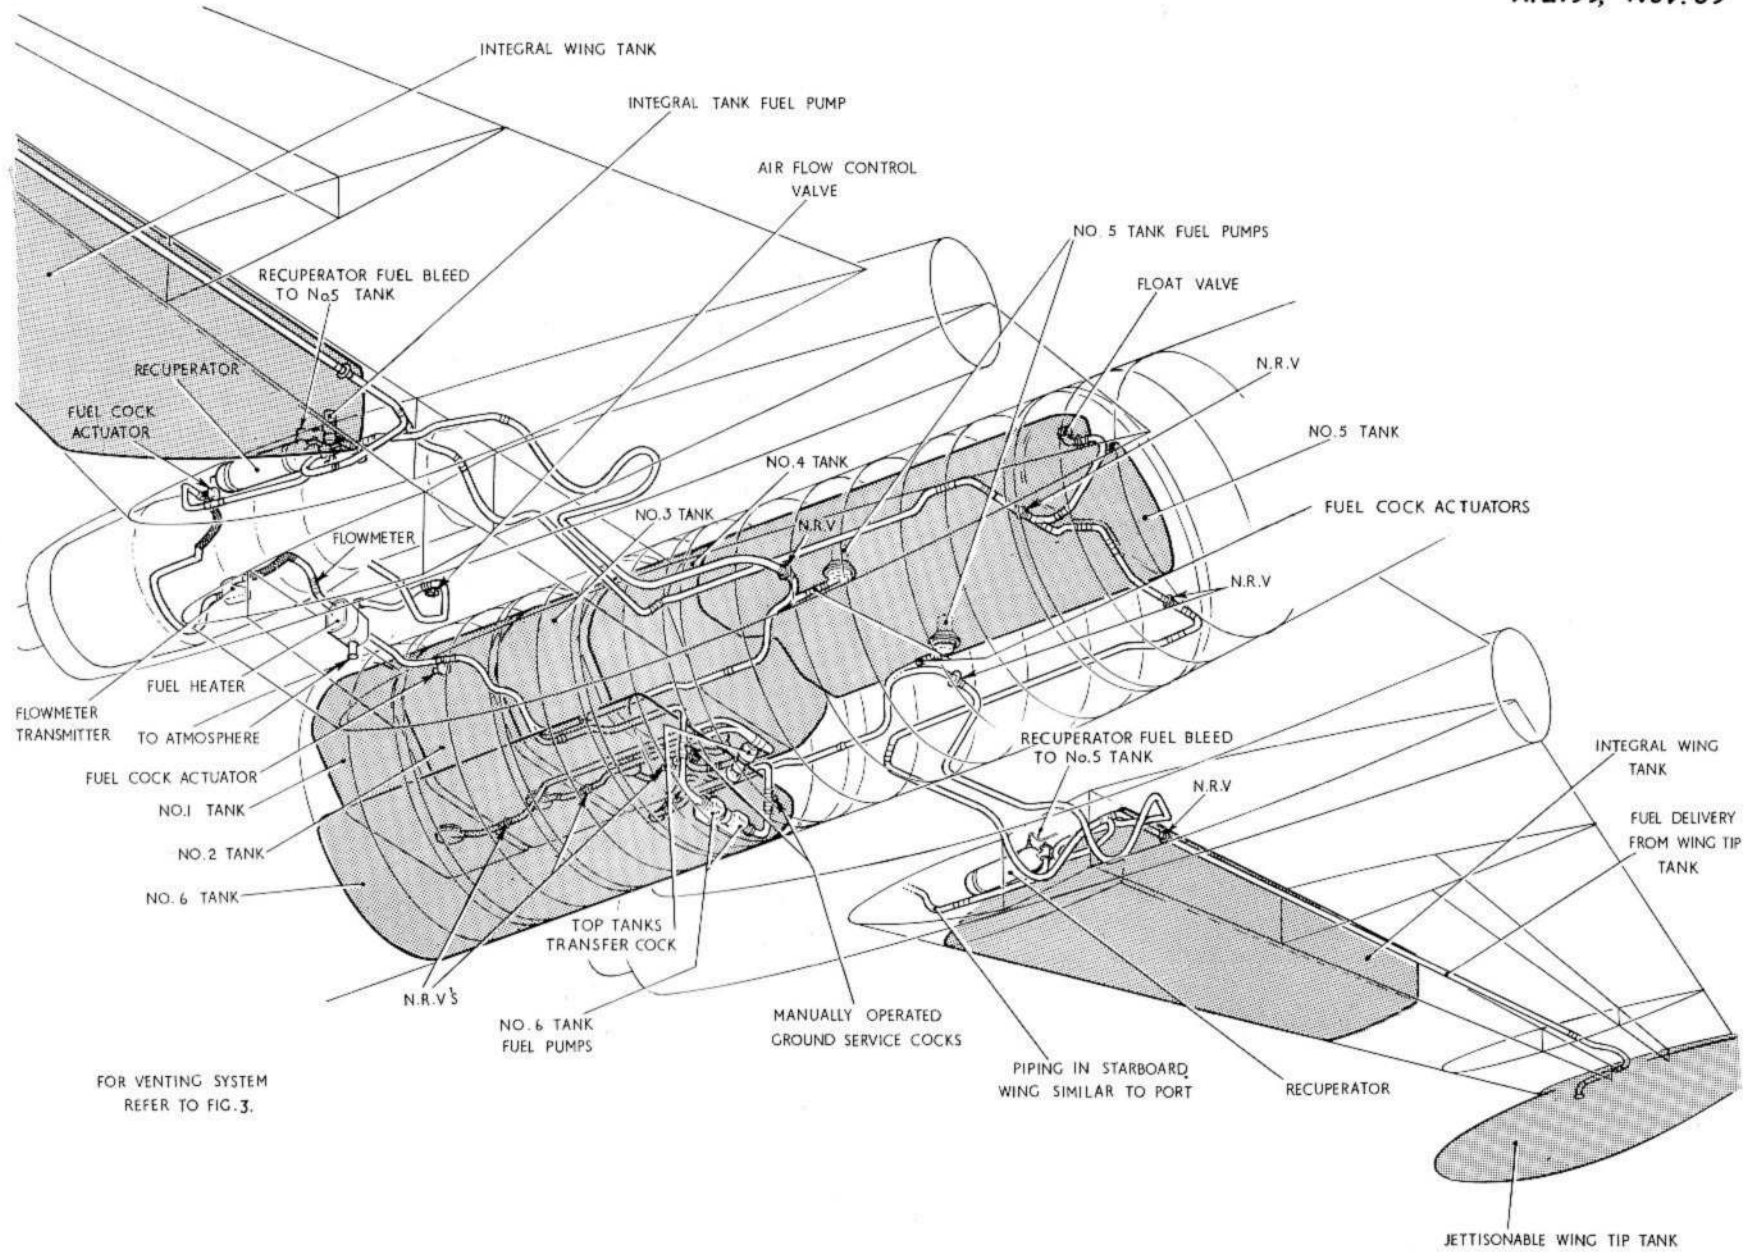

Fig.2 Fuel system installation
- (1) Ensure that the battery isolating switch is OFF.
- (2) Connect a 24-volt supply to the external supply socket.
- (3) Remove the tank filler cap (Sect. 2, Chap. 2, fig. 2).
- (4) Ensure that the two electrically-actuated cocks are OFF.
- (5) Break the locking wire and remove the drain plug from the base of each pump in turn, fit drainage connections and lengths of hose.
- (6) Lead the lengths of hose to a container and switch on the pumps.
- (7) When draining is complete, switch off the pumps, remove the drainage connections, refit the drain plugs and disconnect the external supply.
- (8) Ensure that the locking wire on the drain plugs is renewed.